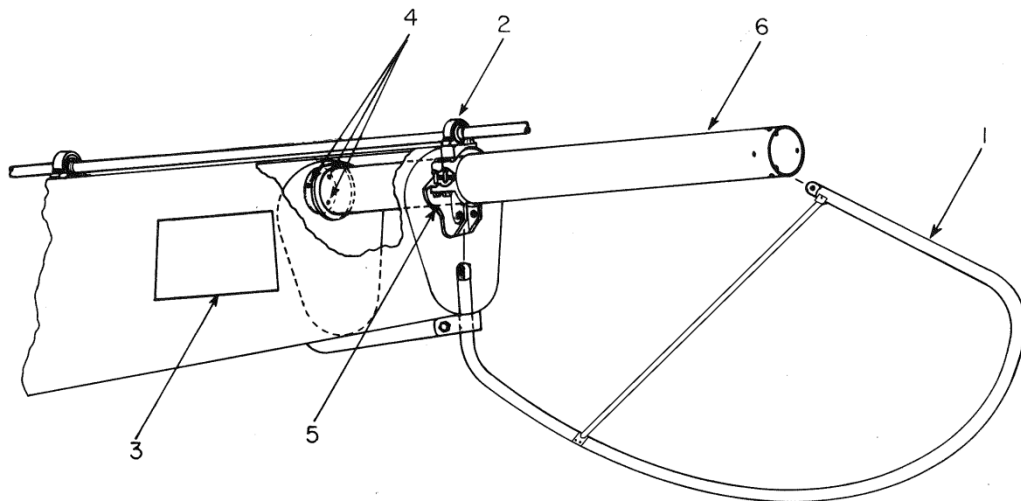

Figure 8-15. Torque Tube Extension
A. Torque Tube Removal (See Figure 8-15)